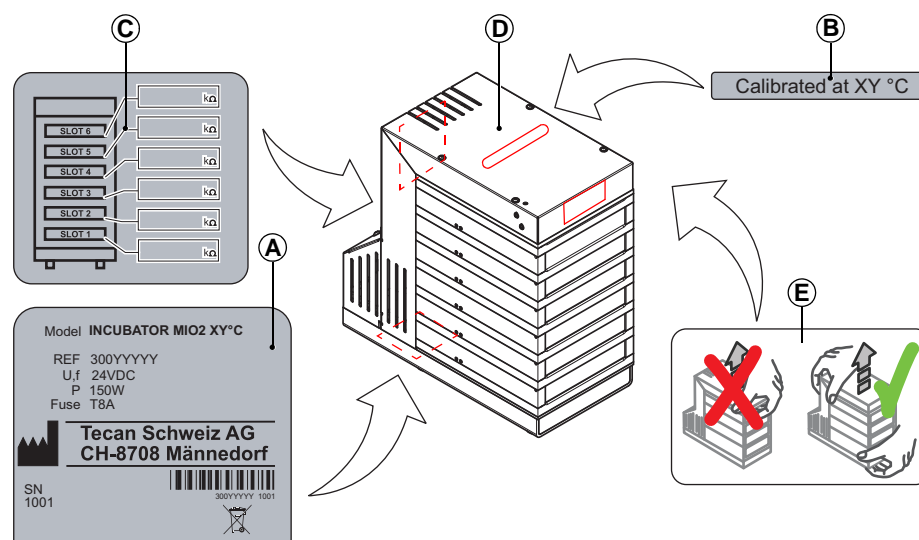

Fig. 3-2 MIO2, 6 positions, product identification and appendix labels
The product identification label (A) provides the following instrument details Fig. 3-2, Fig. 3-2:
The calibration label (B) states the temperature the MIO2 was calibrated and tested for Fig. 3-2, Fig. 3-2.
The configuration label (C) Fig. 3-2, Fig. 3-2 specifies the resistance of the slots.